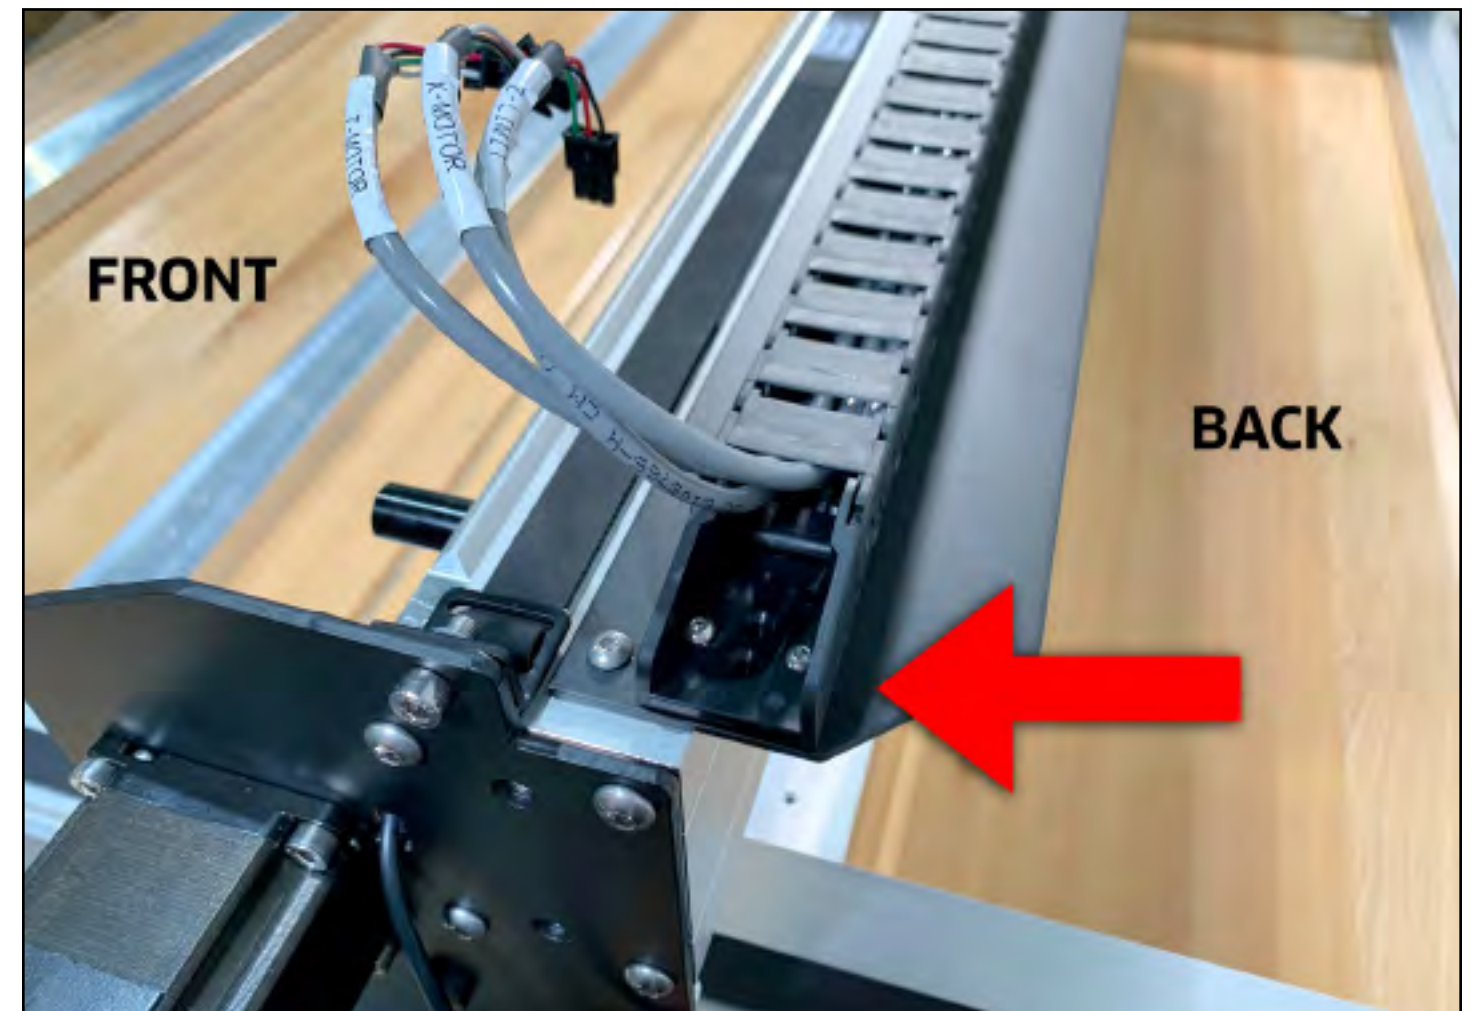

Figure 6-3
2. Position the tail of the X-Axis drag chain over the two M3 integrated nuts on the right side of the X-Axis drag chain support panel. See **Fig. 6-3**.
3. Use a 2mm hex key and two (2) M3×6mm BHCS to secure the tail of the X-Axis drag chain to the support panel. Fully tighten.